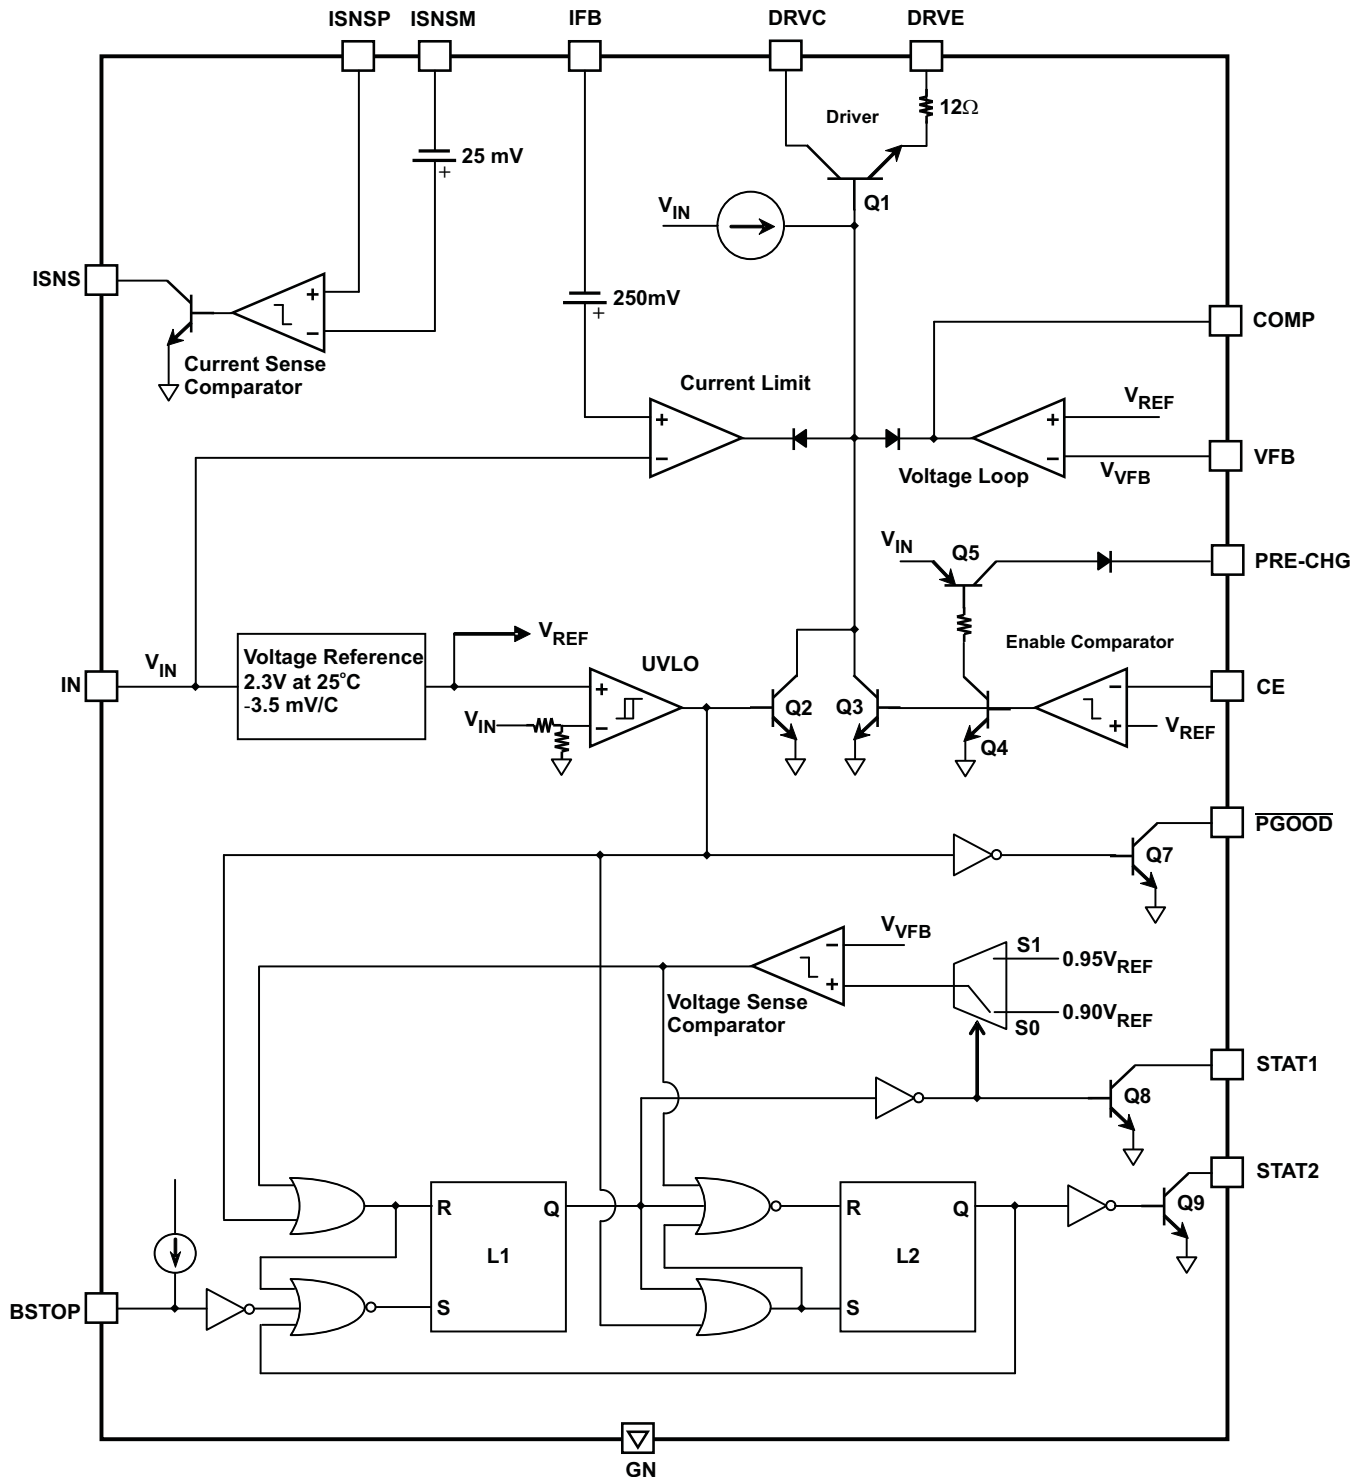
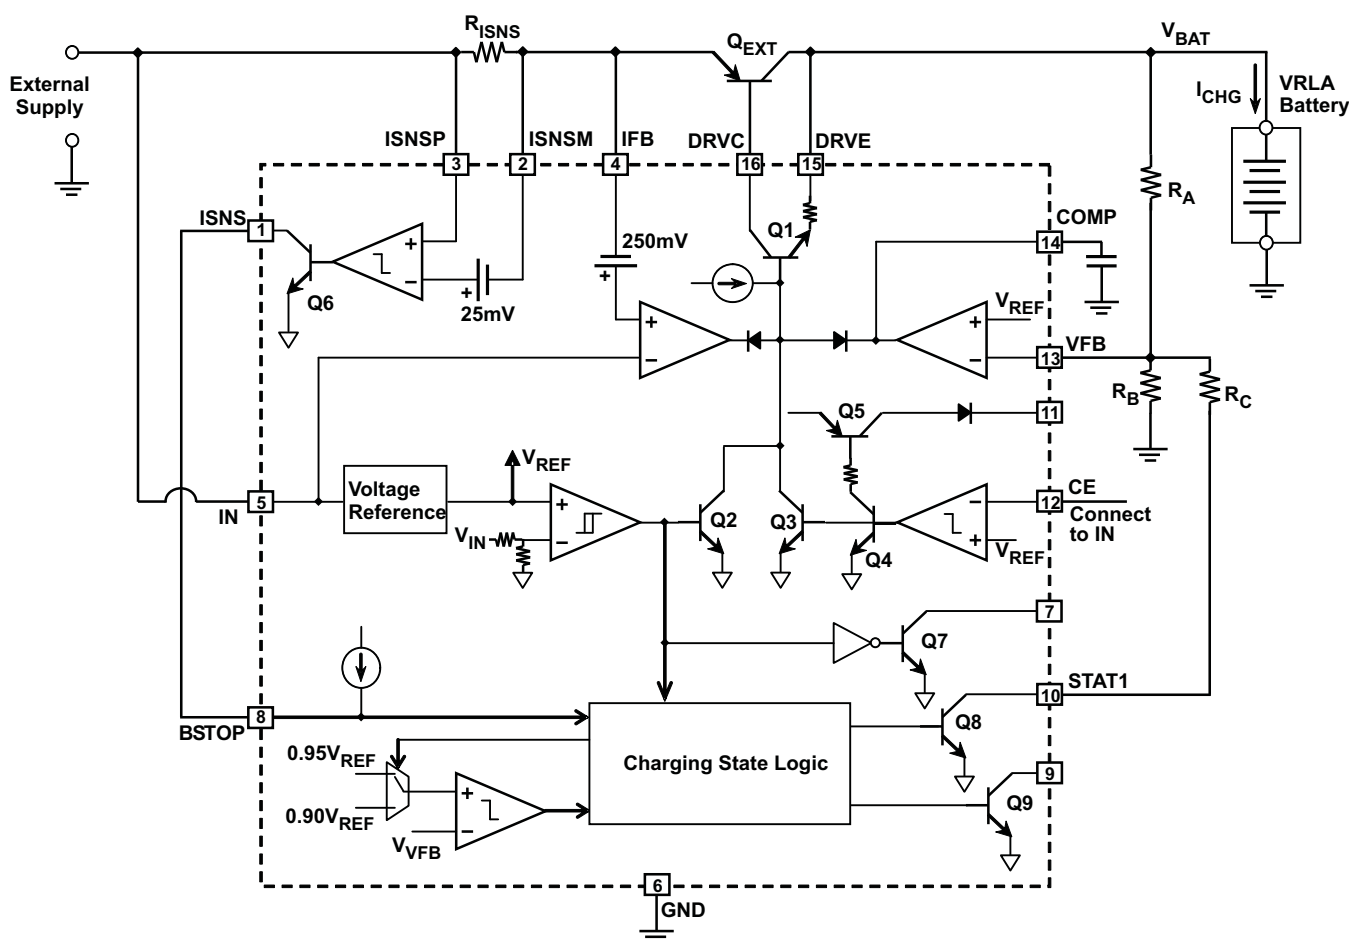
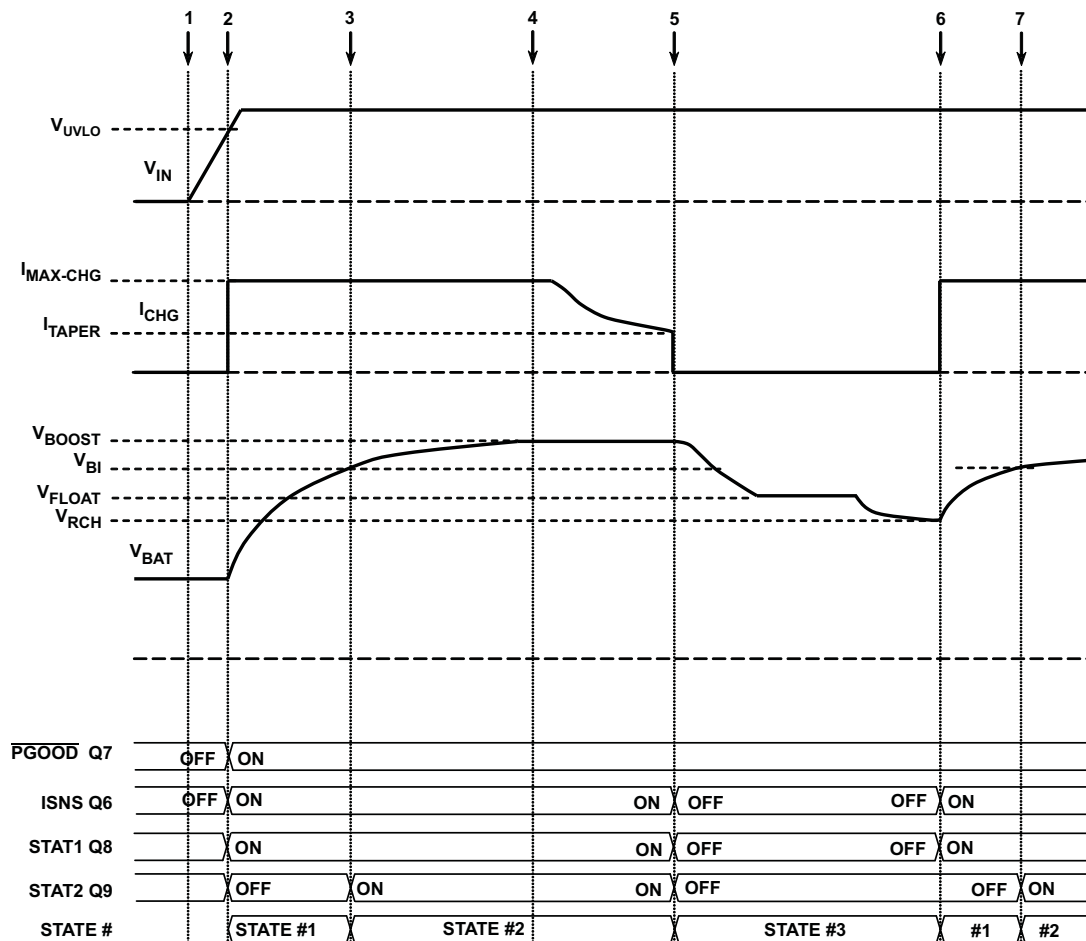

Figure 2. Simplified Block Diagram
Figure 4.
Figure 5.
Only an external pass transistor and minimum number of external passive components are required along with the IC to implement a charger for sealed lead-acid batteries. The IC's internal driver transistor Q1 (see Figure 2) supports NPN as well as PNP pass transistors, and provides enough drive current (25mA specified) to support a wide range of charging rates.
The driver transistor is controlled by a voltage regulating loop and a current limiting-limiting loop (see Figure 2). The current-limiting loop reduces drive when the voltage between the IN pin and the IFB pin increases towards V_{ILIM} (250mV typical). The voltage regulating loop tries to maintain the voltage on the VFB pin at V_{REF} . Together, these two loops constitute a current-limited precision constant-voltage system, which is the heart of any lead-acid charger. The voltage regulating amplifier needs an external compensation circuit which depends on the type of external pass transistor (see Application Information section).
An undervoltage lock-out circuit is also provided (see Figure 2). This circuit disables the driver transistor as long as the input voltage is below UVLO (4.5V typical). The UVLO circuit also drives an open-collector output PGOOD.
Figure 4 shows the bq24450 configured as a simple dual-level float-cum-boost charger. Figure 5 shows the sequence of events that occur in a normal charge cycle. At (1) in Figure 5, power is switched ON. As long as the input voltage V_{IN} is below the undervoltage lockout UVLO, Q2 is ON, disabling the driver transistor Q1. As the input voltage V_{IN} ramps up and rises above UVLO Q2 turns OFF. This enables Q1 and thus the external transistor Q_{EXT} . At the same time, Q7 turns ON, latch L1 is forced to RESET and latch L2 is SET (see Figure 2 for the internals of the Charging State Logic).
As charging proceeds, the voltage at the VFB pin increases further to V_{REF} . At this point, the voltage regulating amplifier prevents the voltage at the VFB pin from rising further, maintaining the battery voltage at V_{BOOST} . [(4) in Figure 4].
As long as the peak load current is less than $I_{MAX-CHG}$, it will be supplied by Q_{EXT} , and the voltage across the battery will be maintained at V_{FLOAT} . But if the peak load current exceeds $I_{MAX-CHG}$, the battery will have to provide the excess current, and the battery terminal voltage will drop. Once it drops below $0.9V_{REF}$, at (6) in Figure 4, a new charge cycle is initiated. The battery voltage V_{BAT} at this point, V_{RCH} , is given by:
The problem with the charger circuit shown in Figure 4 is that even with deeply discharged batteries, charging starts at full current level $I_{MAX-CHG}$. This can sometimes be hazardous, resulting in out-gassing from the battery. The bq24450 can be configured to pre-charge the battery till the voltage levels rise to levels safe enough to permit charging at $I_{MAX-CHG}$.